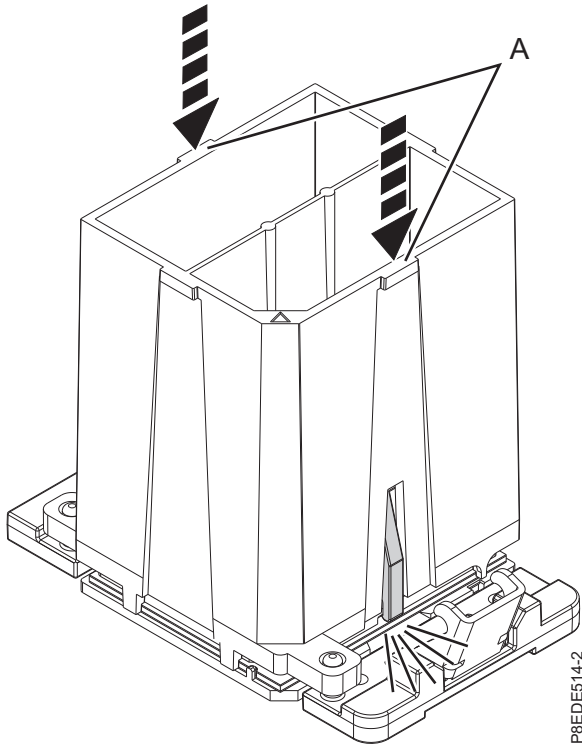

Figure 36. Locking the system processor module into the tool
- c. With the removal tool (A) sitting on top of the system processor module, push down on the tool to lock the system processor module into the tool, as shown in Figure 36 on page 34. Make sure that both of the tool jaws are locked on the system processor module. Do not press the blue release tabs until directed to do so later.